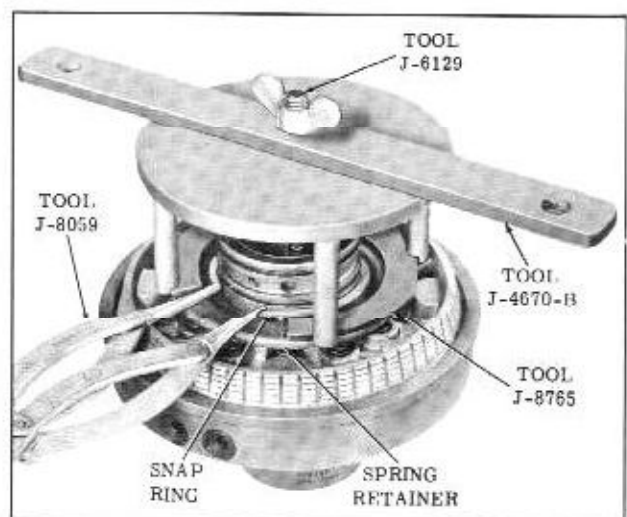

Fig. 3-58 Removing Case Support Snap Ring
2. Remove snap ring as shown, (Fig. 3-58)
6. Place snap ring on case support and attach all spring compressing tools. (Refer to Fig. 3-58)